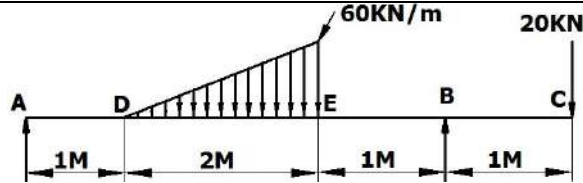

Figure 20
10. Draw the SFD & BMD for the overhanging beam shown in Figure 20. Indicate all significant values including point of contra-flexure.